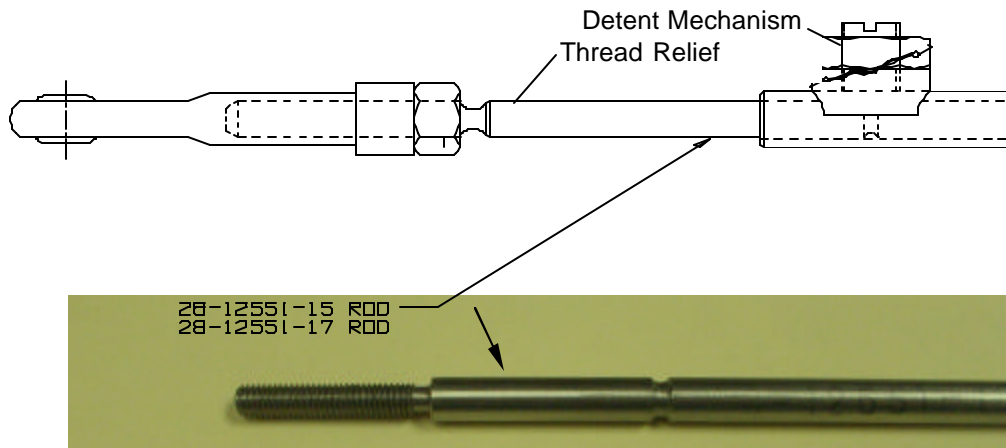

Figure 2. Former Wastegate Rod Assembly
- C. If the detent breakaway force is correct, fully collapse the wastegate linkage and determine if it is possible for the detent to lock into the thread relief near the rod end (Figure 2). If the detent can reach the thread relief, modify or replace the P/N 28-12551-15/-17 rod with P/N 28-12551-19/-21 rod, as appropriate, in IAW paragraph 5.2.
- D. Reassemble the wastegate linkage assembly with the modified or new rod (Figure 2). Do not overtorque the spring plunger nut. Torque the nut 12-15 in-lbs/1.4-1.7 N-m.